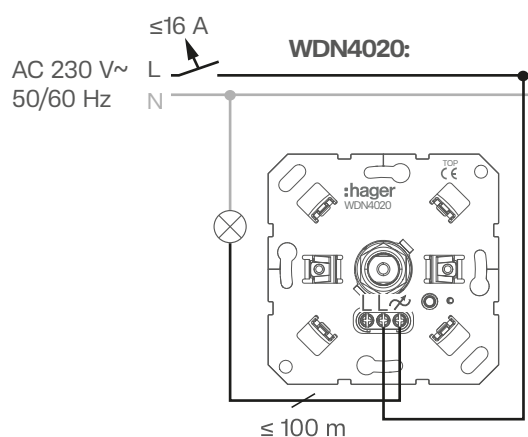

Fig. 4: Connection diagram
- 1 Connect the dimmer (7) in accordance with the connection diagram (Fig. 4).